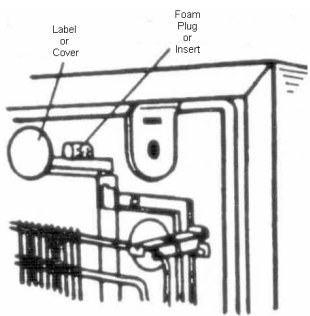
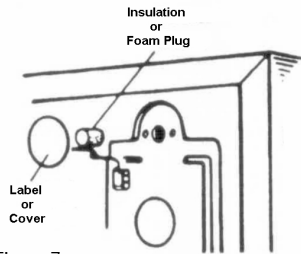

Figure 6
Figure 7
4. Looking at the back of the refrigerator, for external condenser coil models see Figure 6, for smooth back or external wiring models see Figure 7. **SAFETY! For external condenser models, cover the wire grid along the top with card board or cloth to protect you from cuts and scrapes.** If you have an external condenser coil, you may need to loosen the right side mounting clips to route the water fill tubing and to attach the fill tubing mounting clips. **Caution, be careful with the coil if you have to move it, damage can occur to the cooling system.**
5. Locate the inlet cover for icemaker installation, for external condenser coils see Figure 6, for smooth back models see Figure 7. The inlet cover may have a plug or a label covering the inlet opening. If it is a plug, gently remove the plug with a putty knife or screwdriver. If there is a label, there will be a "cut here" pattern, using a sharp knife to cut as directed on the label. Remove the underlying insulation using needle nose pliers. Fold cut label into opening to clear opening.